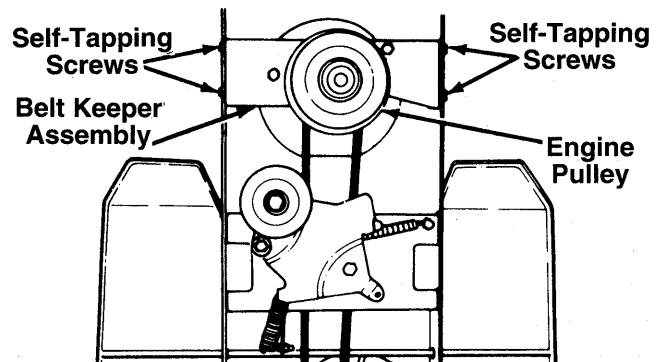

FIGURE 19.
4. Remove the four self-tapping screws which hold the belt keeper assembly to the frame at the engine pulley. Push the belt keeper assembly forward, out of the way. See figure 19.